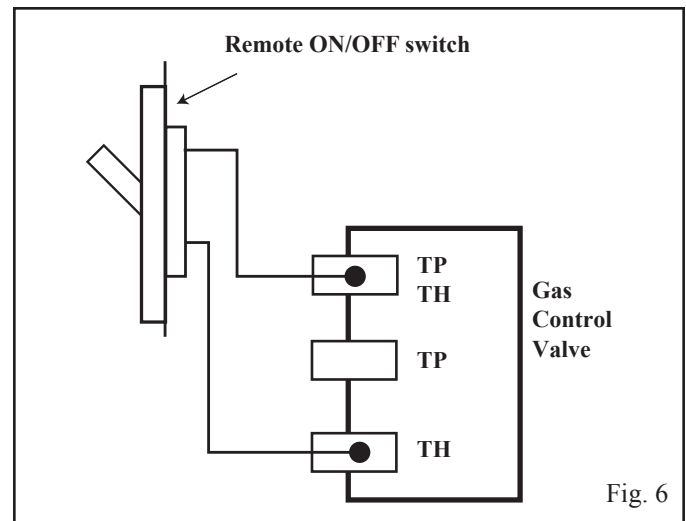

Fig. 6
3. Connect the other ends of the wire to the gas control valve as shown in Fig. 6.